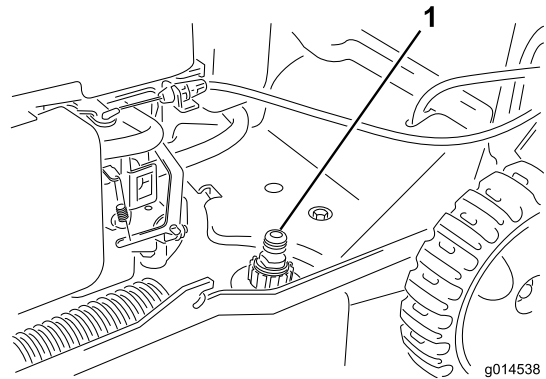

Figure 22
3. Attach a garden hose that is connected to a water supply to the washout port (Figure 22).